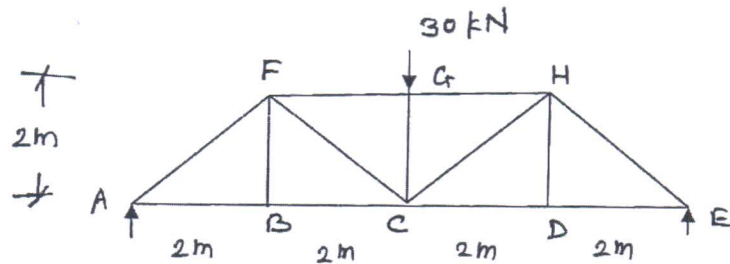

Fig. 5
6. The truss shown in figure 5. Find central deflection. Take $E = 200 \text{ kN/mm}^2$, if : [16]